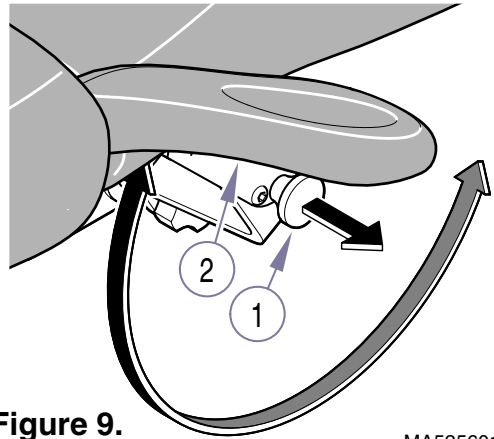

Figure 9.
1. Pull stop pin (1, Figure 9) outward.
2. Rotate armrest (2) up or down until stop pin locks armrest in desired position.